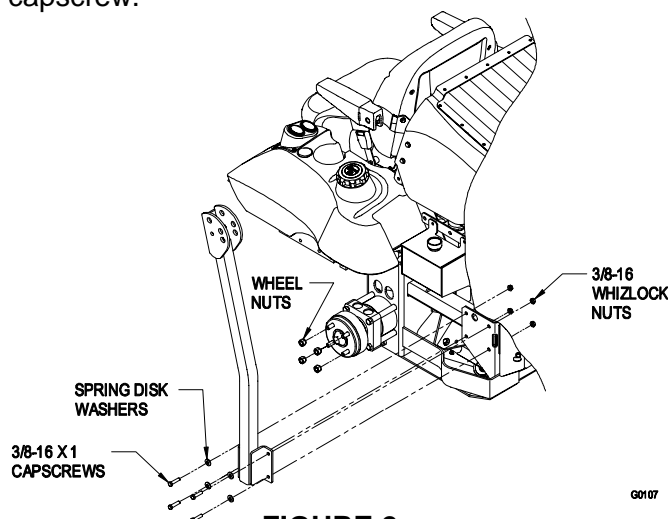

FIGURE 2
- Align lower roll bar tubes along the rear engine frame as shown in Figure 2.
- LOOSELY** install lower roll bar hardware (four 3/8-16 x 1 capscrews, four spring disk washers and four 3/8-16 whizlock nuts) from the bolt bag to the tubes on each side as shown in Figure 2.